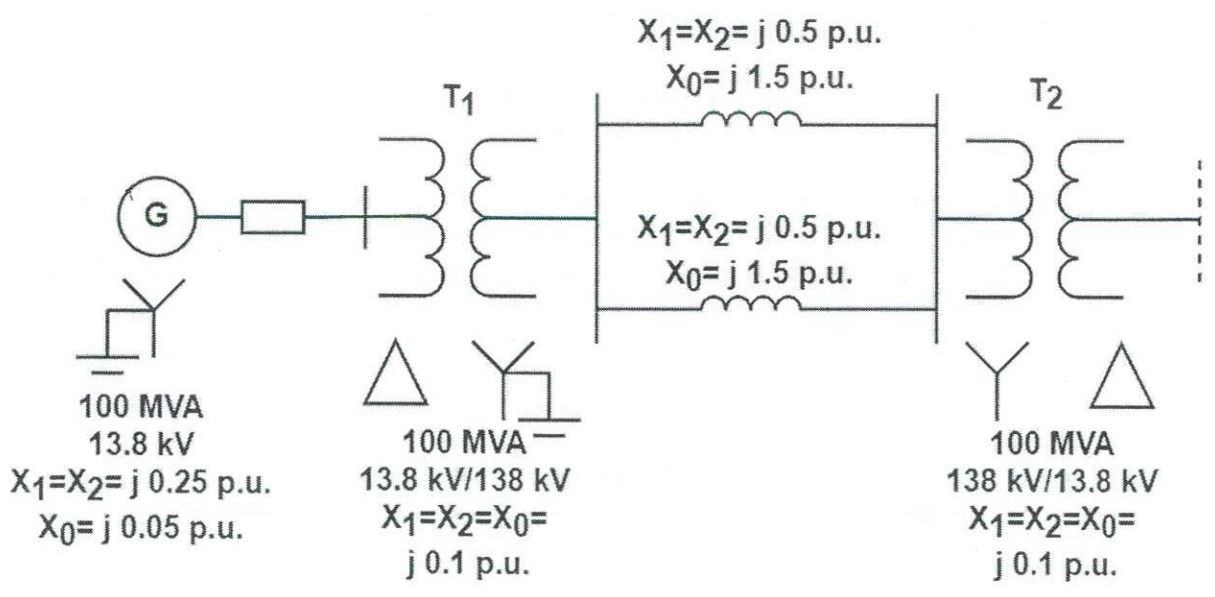

Figure Q2. A single-line diagram of a power system.
- b) A single-line diagram of a power system is shown in Figure Q2. The neutrals of the generator and the transformer T1 are solidly grounded.
i) Draw the per unit sequence network diagrams of the power system shown in Figure Q2.
- ii) Calculate the fault current, for a line to line to ground (L-L-G) fault from phase 'b' to phase 'c' to the ground at point F in the power system shown in Figure Q2. Assume that the pre-fault per unit voltage ( $V_f$ ) at the generator is 1.2 with zero phase shift.